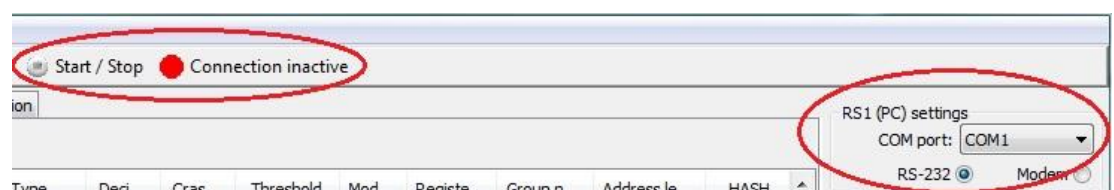

Fig. 6.2
Use the dialog box 'RS1 (PC) settings' (see Fig. 6.2) to establish the connection between the MSD200 and the PC. The content of the dialog box depends on the selected type of connection. Perform following steps to establish connection:
Use the button 'Start / Stop' to control the communication (see Fig. 6.2). The next item to the right (colored circle) indicates the status of connection: